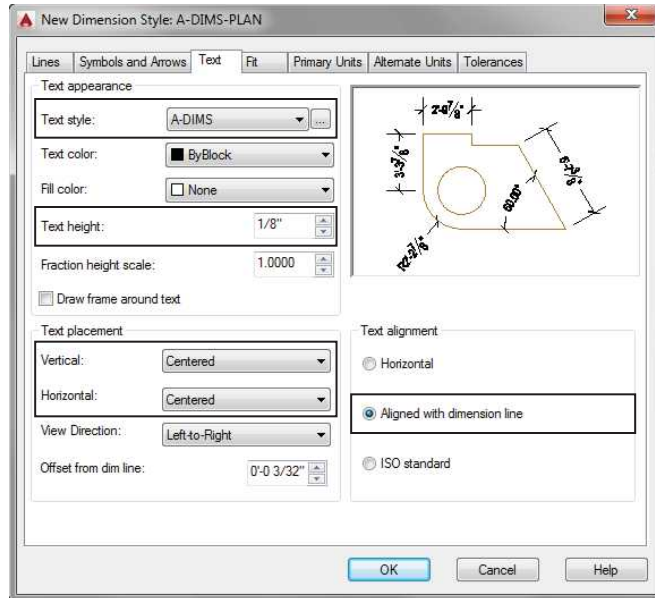

FIGURE 12.7: The Text tab with settings for the A-DIMS-PLAN style
8. Click the Text tab, and change the following parameters to match Figure 12.7.